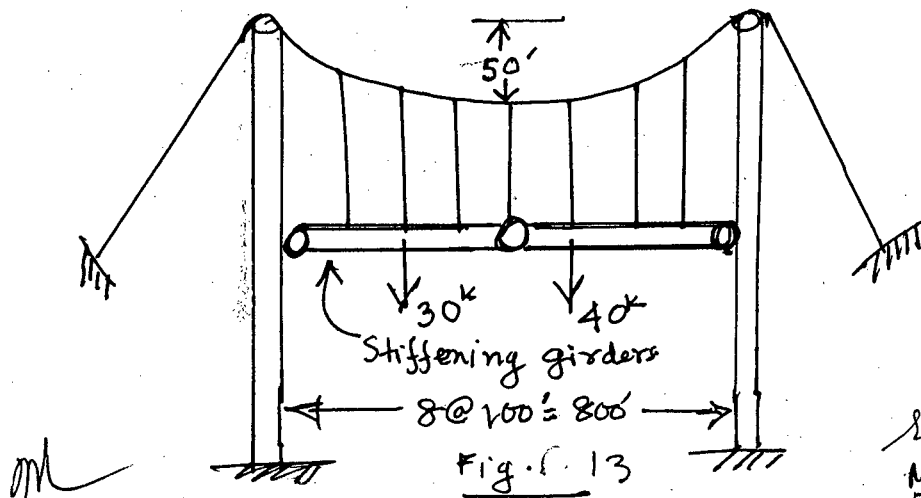

Fig. 13
14. (a) Calculate force in the hangers of the suspension bridge (Fig. 13) (21)